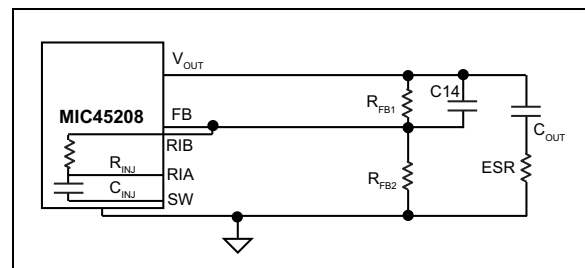

FIGURE 5-5: Internal Ripple Injection at FB via RIB Pin.
2. There is virtually inadequate or no ripple at the FB pin voltage due to the very low-ESR of the output capacitors; such is the case with the ceramic output capacitor. In this case, the V_{FB} ripple waveform needs to be generated by injecting a suitable signal. MIC45208 has provisions to enable an internal series RC injection network, R_{INJ} and C_{INJ} , as shown in Figure 5-5, by connecting RIB to the FB pin. This network injects a square wave current waveform into the FB pin, which by means of integration across the capacitor (C_{14}), generates an appropriate sawtooth FB ripple waveform.